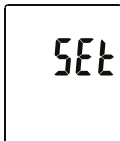

Fig.7
2. Enter SETUP mode by pressing and holding  button and then press  power button to turn on the unit. "SET" blinks on the LCD screen. (see Fig.7)